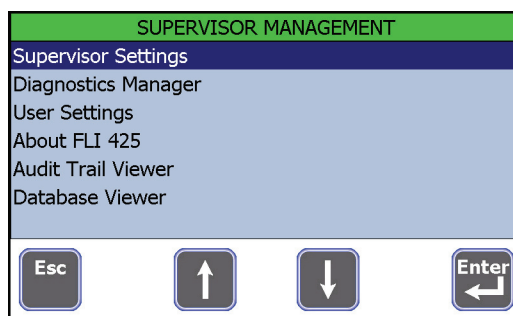

Figure 7.2 Supervisor Management screen
3. The display shows the **Supervisor Management** menu, shown in Figure 7.2.